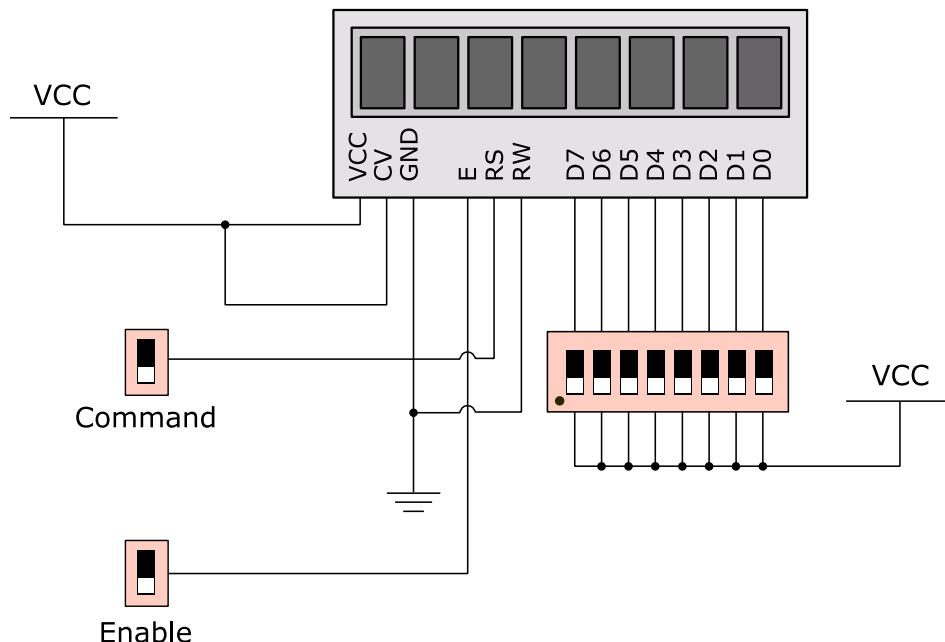

Figure 72
- Connect the circuit as shown in Figure 72.